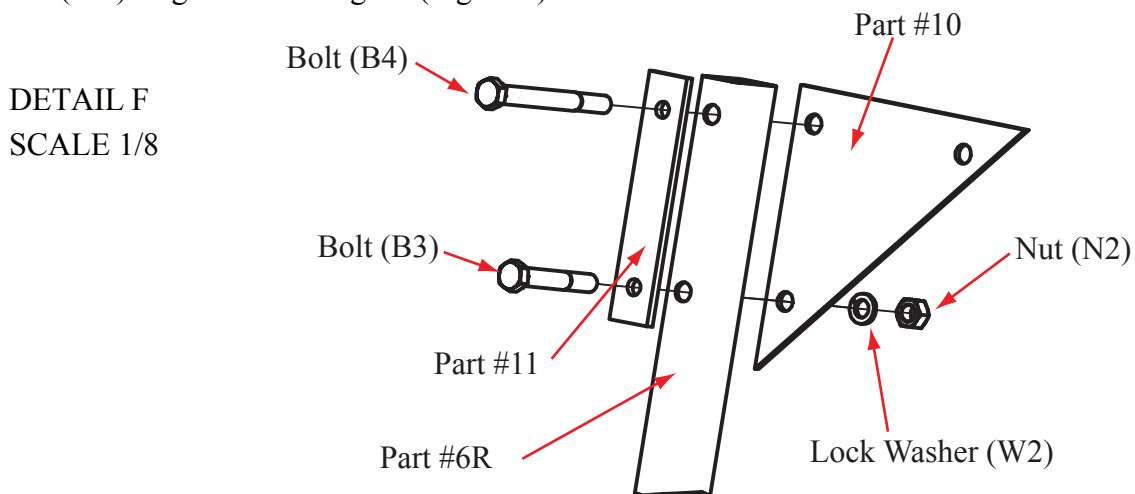

Figure 8
Step 15. Install the corner plate (#10) by aligning the bottom and corner holes of the corner plate with the top two holes on the right vertical tube (#6R). Insert bolt (B3) through the top vertical tube backing plate (#11), then through the lower holes in the right vertical tube (#6R) and the bottom hole of the corner plate. Place lock washer (W2) and nut (N2) onto bolt (B3) and secure a snug fit. (Figure 8)
Step 16. Insert bolt (B4) through the top hole of the top vertical tube backing plate (#11), the top holes of vertical tube (#6R), and the corner hole of the corner plate. (Figure 8)